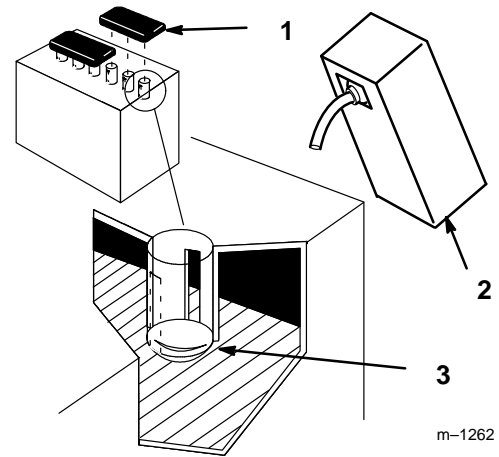

Figure 5
5. Remove filler caps from the battery. Slowly pour electrolyte into each cell until the electrolyte level is up to the lower part of the tube (Fig. 5).
8. Slowly pour electrolyte into each cell until the level is once again up to the "UPPER" line on the battery case (Fig. 5) and install covers.